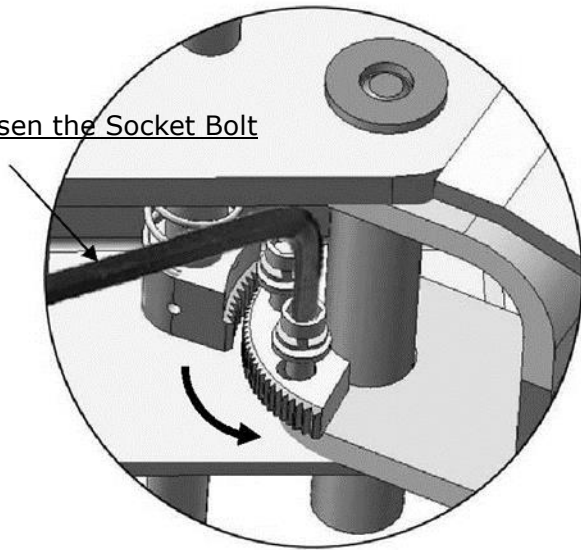

Fig. 28
2. Lower the carriages down to the lowest position, use the 8# socket head wrench to loose the socket bolt (Fig.28).